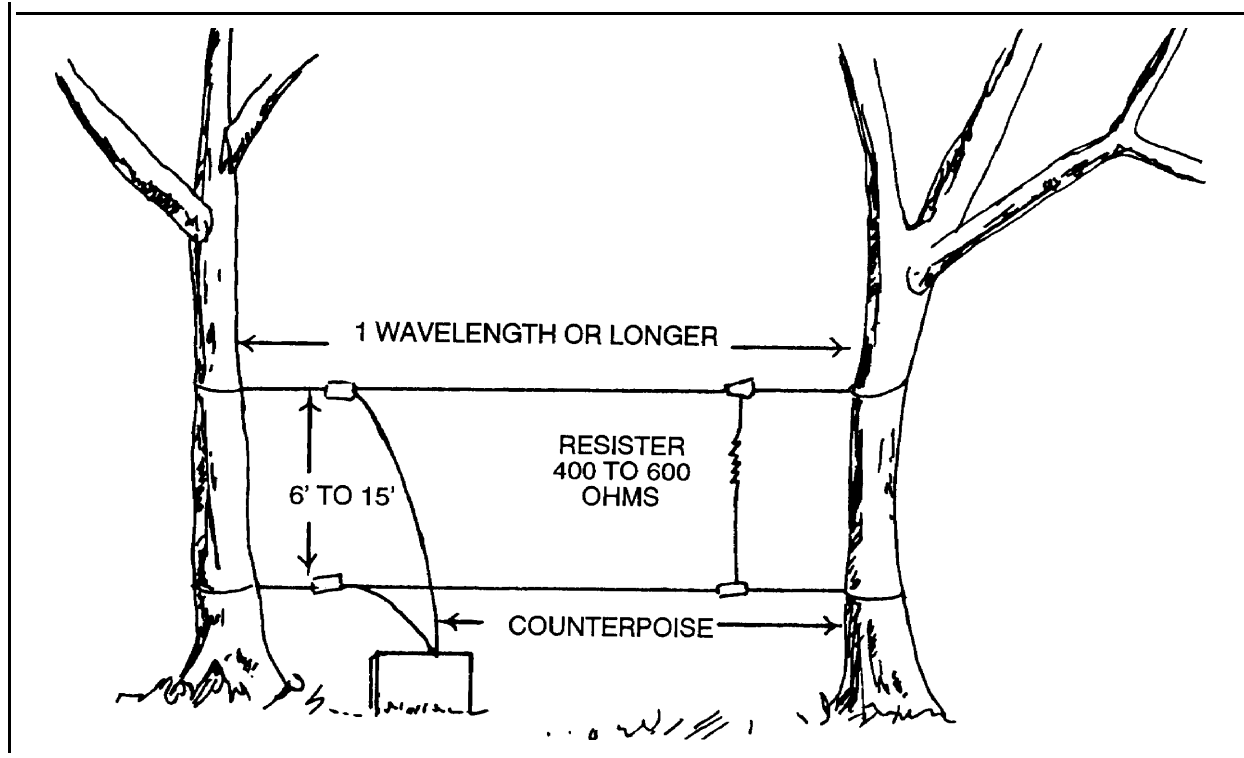

Figure D-11. Long-wire antenna.
h. **Long-Wire Antenna.** Along-wire antenna is one that is long compared to a wavelength. A minimum length is $1/2$ wavelength; however, antennas that are at least several wavelengths long are needed to obtain good gain and directional characteristics. The construction of long-wire antennas is simple and straight forward. The dimensions or adjustments are critical. Along-tire antenna accepts power and radiates it well on any frequency for which its overall length is not less than $1/2$ wavelength (Figure D-11, page D-14).